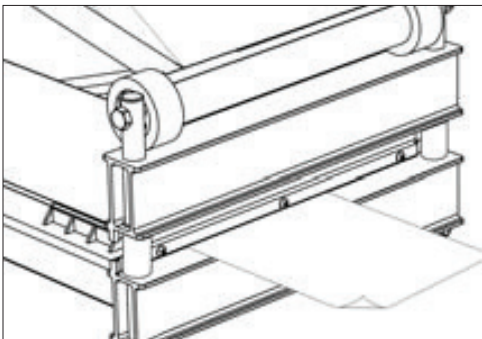

FIGURE 12
3. Cut a piece of paper to ensure the tool is set correctly (Fig. 12).